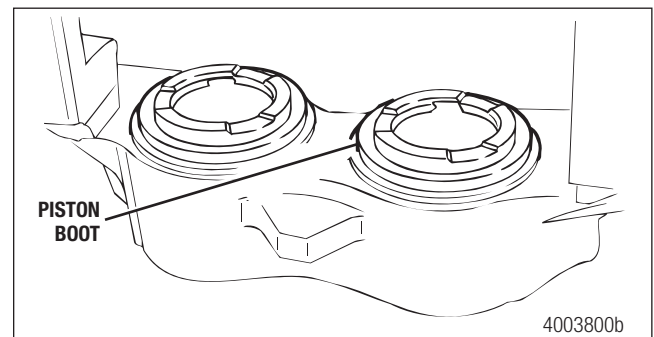

Figure 6.4
10. Install the piston boot over the projecting end of the piston. Figure 6.4.